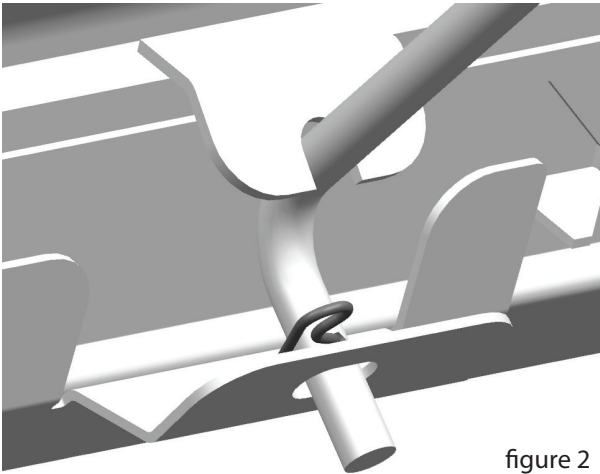

figure 2
Step 1: Insert rod end into gate slide and lock in place with hair pin clip as shown (see figure 2).